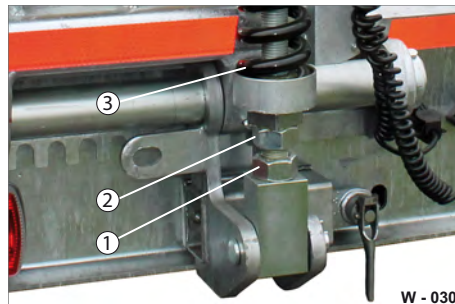

Fig. 34 Spring, factory setting
- ▶ Release the lock nuts (SW 56) (Fig. 34/2).
- ▶ Screw the adjusting screw (Fig. 34/1) anti-clockwise. The spring is tightened.